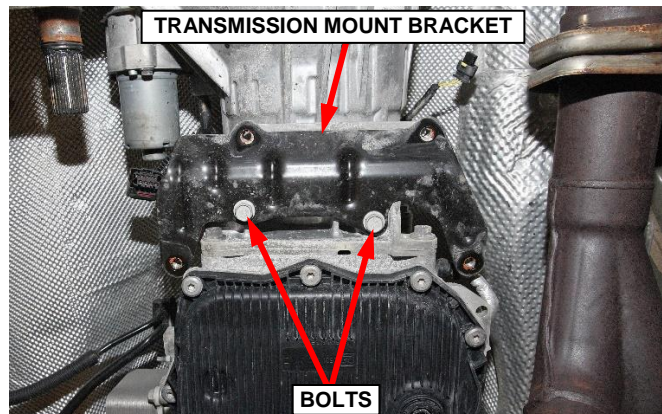

Figure 20 – Transmission Mount Bracket
25. Remove and **SAVE** the two bolts then remove and **SAVE** the transmission mount bracket (Figure 20).
6. Install the transmission mount bracket and the two bolts then tighten the bolts to 64 N·m (47 ft. lbs.) (Figure 20).